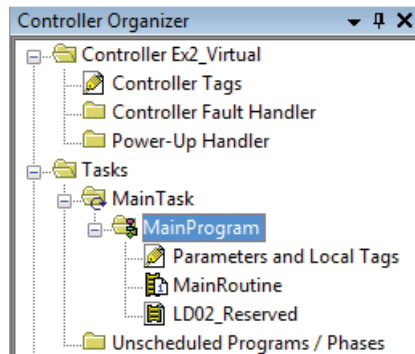

Figure 97. MainProgram and Routines (virtual version).
9. In the *Controller Organizer*, we see that there is one program, *MainProgram*, in the continuous task *MainTask* (Figure 97). In this program, there are two routines at this time: